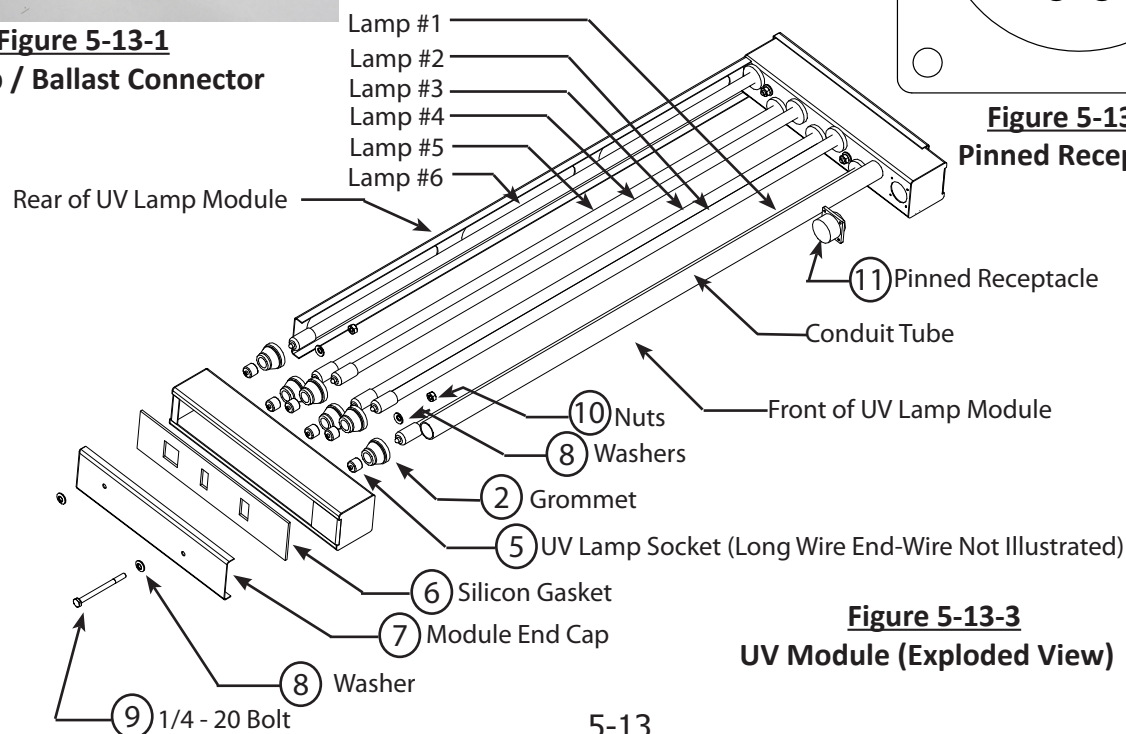

Figure 5-13-3
6. Referring to Figure 5-13-3, remove the two bolts pc #9, washers, pc #8, Module End Cap pc #7, and the Silicon Gasket, pc #6, from each end of the module.
8. Remove the four screws that hold the base of the Pinned Receptacle, Figure 5-13-3 pc #11, to the Lamp Module and pull the base away from the Module until the wires are exposed.
17. Replace the UV Socket Long Wire by tying the end of the cut Long Wire to the socket end of the new UV Socket Long Wire and pull it through the conduit wire way (Refer to Figure 5-13-3).
6. Referring to Figure 5-13-3, Remove the two bolts pc #9, washers, pc #8, Module End Cap pc #7, and the Silicon Gasket, pc #6, from each end of the module.